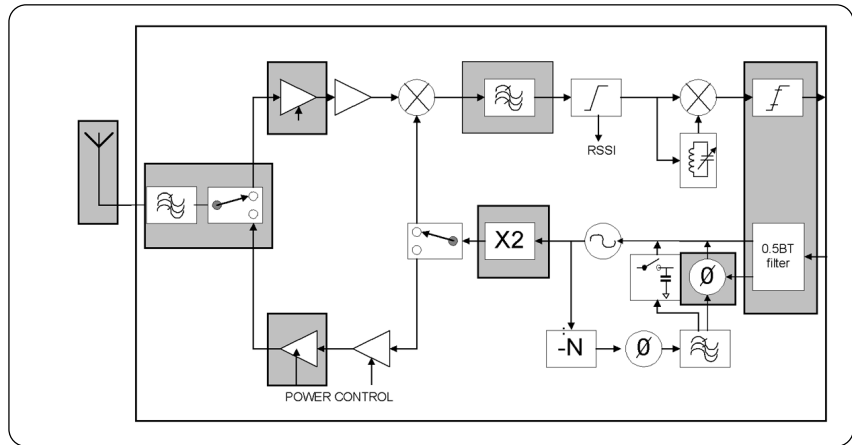

Figure 7: *Bluetooth* RF radio design using analog techniques.
The design in **Figure 7** incorporates phase-locked loop signal synthesis, common oscillator for transmitter and receiver, transmitter level control (perhaps with a power amplifier for extended range), switched front end, and filter at the antenna. For the receive path, we might use a low-noise amplifier for extended range (or Class 1 operation), standard downconversion to an intermediate frequency (IF) with FM demodulation through a tuned circuit, and an RSSI circuit which may or may not be active, depending on the application.
Consider the question of how modulation is impressed upon the carrier. Shown in Figures 7 and 8 are one design with an IQ modulator and one with a phase-locked loop that unlocks during the burst to impress frequency deviations onto the carrier. The former is not sus-